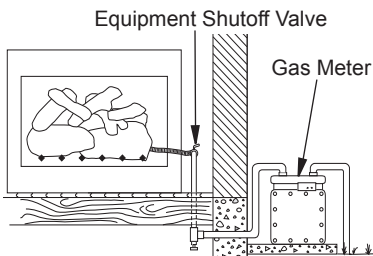

Figure 5 - Checking Gas Joints
1. Close equipment shutoff valve (see Figure 5).
3. Check all joints from gas meter to equipment shutoff valve (see Figure 5). Apply noncorrosive leak detection fluid to gas joints. Bubbles forming show a leak.